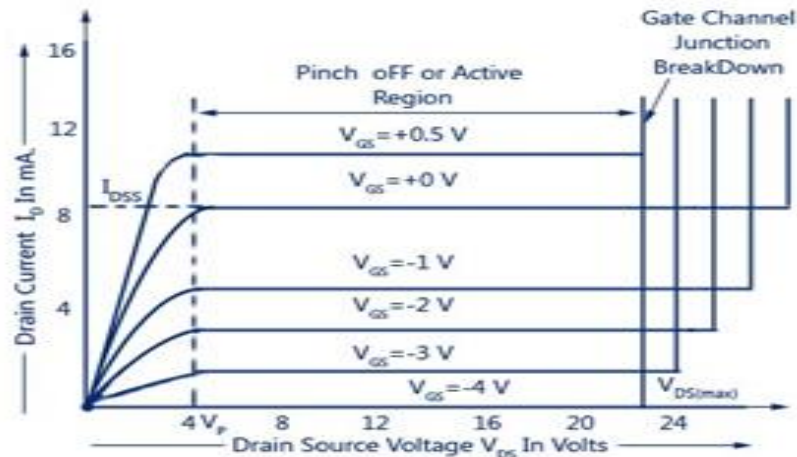

Fig. 4.6 Waveforms of Drain characteristics of JFET
- The curve drawn between drain current I_D and drain-source voltage V_{DS} by keeping gate-to-source voltage V_{GS} as constant as shown in figure 4.6.